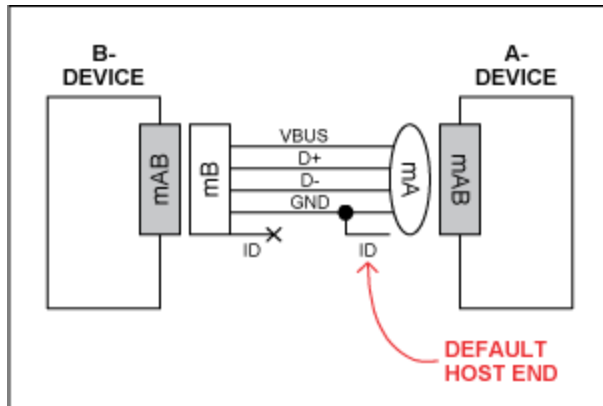

Figure 2. Fifth ID pin determines default host.
The cable orientation determines the initial roles (**Figure 2**). Dual-role devices use a new receptacle called the mini-AB. The mini-A plug, the mini-B plug and the mini-AB receptacle add a fifth pin (ID) to give different electrical identities to the cable ends. This fifth ID pin is connected to ground inside the mini-A plug and left floating in the mini-B plug. The OTG device receiving the grounded ID pin is the default A-Device (host); the device with the floating ID pin is the default B-Device (peripheral).